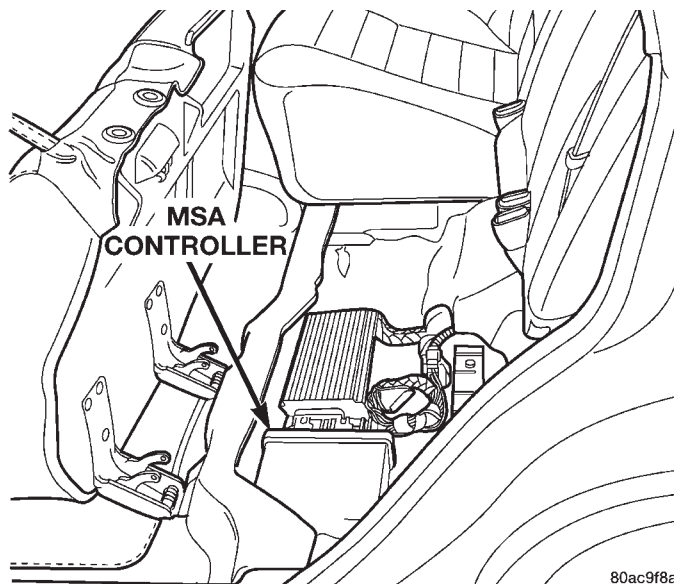

Fig. 13 MSA Location—Typical
- (3) Be sure that the 68 way connector is fully engaged with the MSA (Fig. 13)